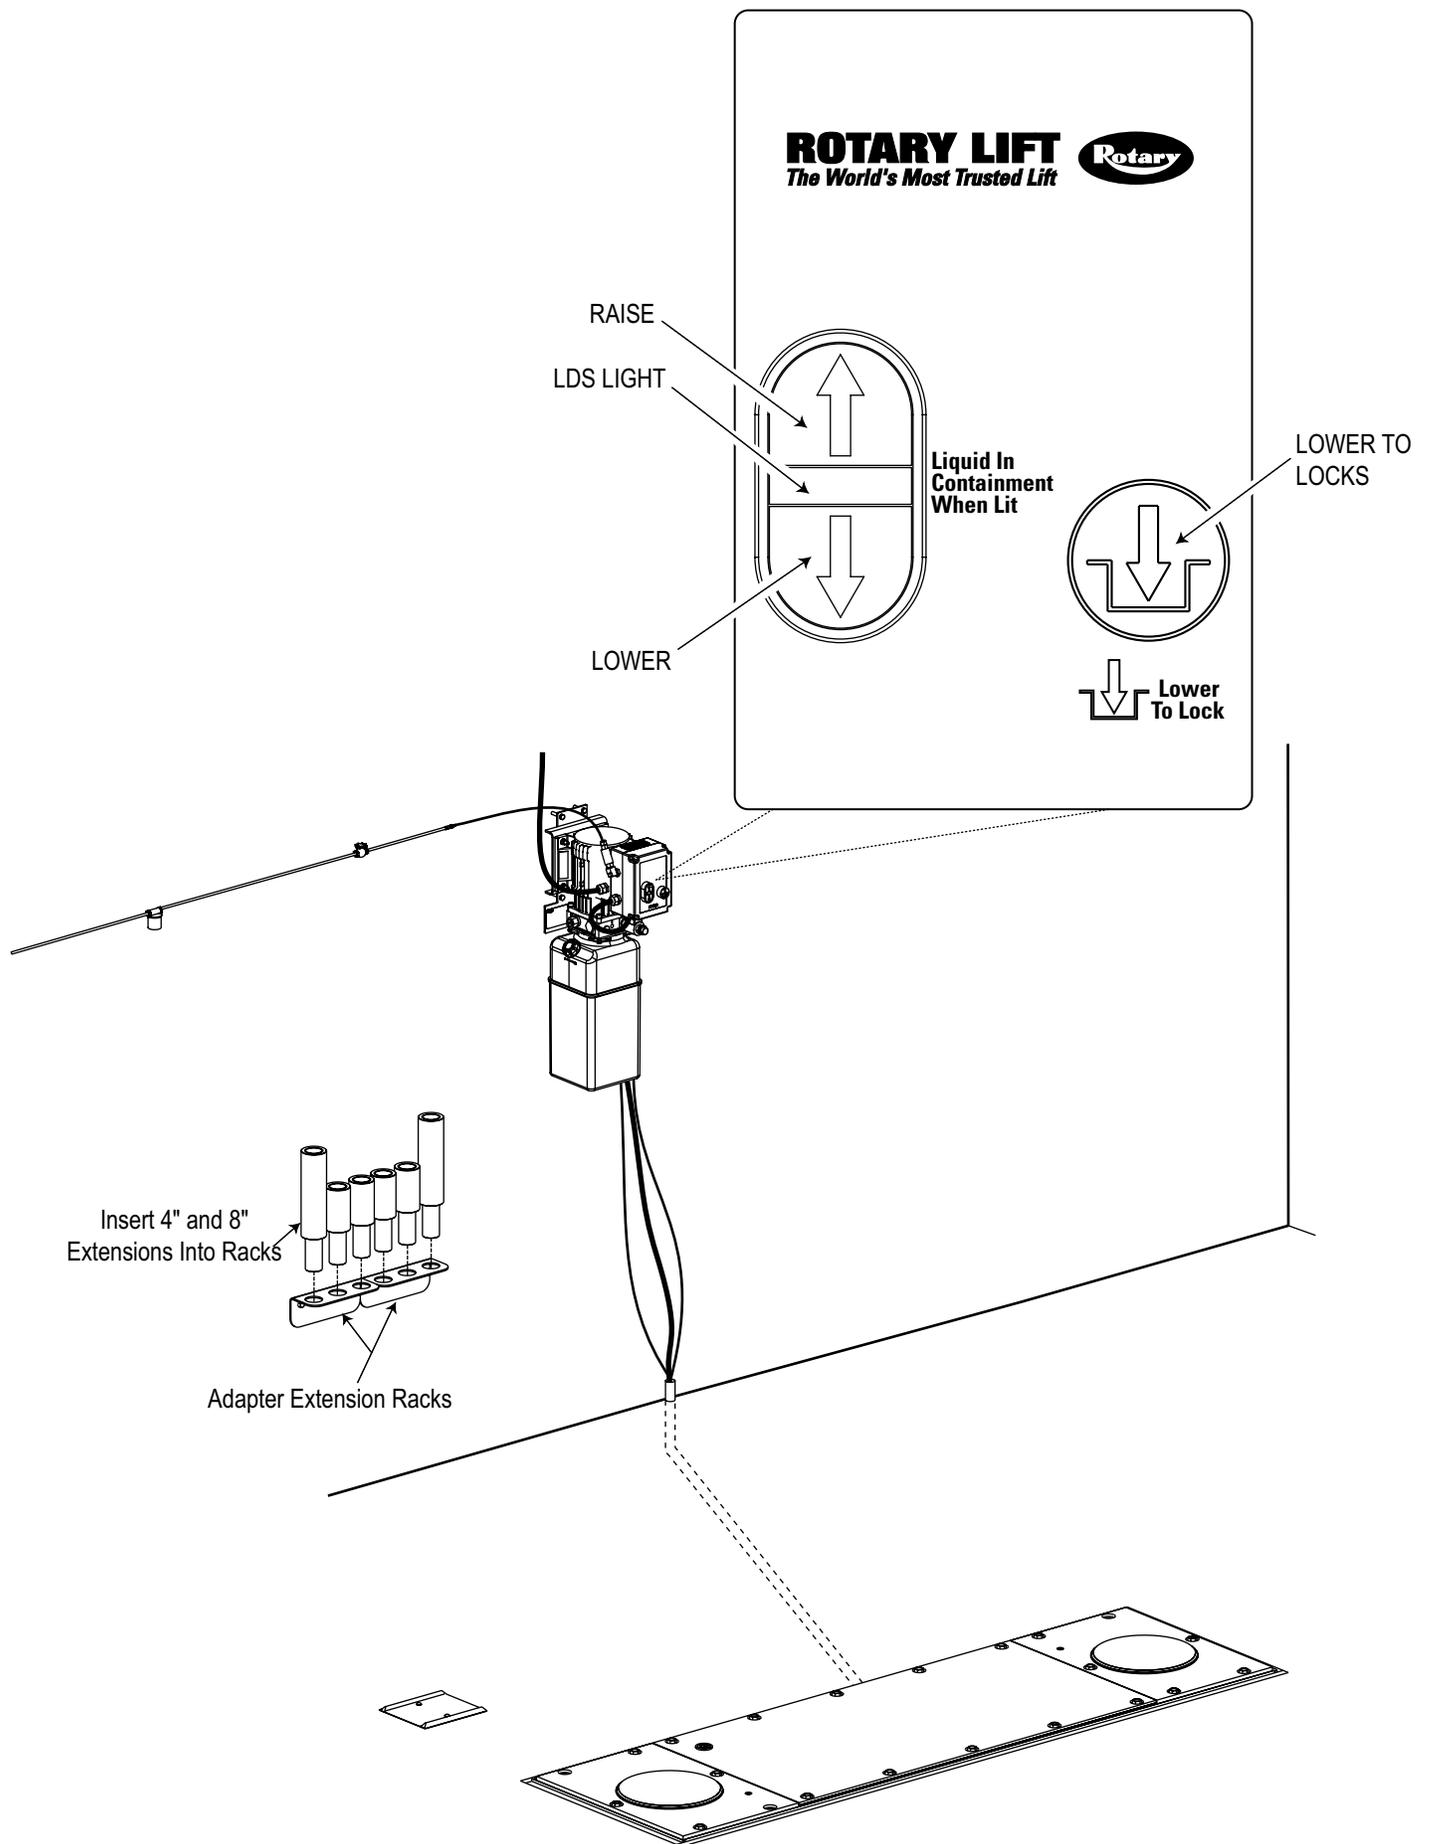

Fig. 15
12. Adapter Extension Racks (For SL212i only), Fig. 15:
- A. Locate and mount adapter extension racks on the wall convenient to the bay area using (4) 3/8" wall anchors. Anchors must be able to hold 20 lbs. of shear force.
- D. Press  RAISE button and raise lift to full rise, Fig. 15.
- E. Press  LOWER button to fully lower lift, Fig. 15.
14. Locking Latch Test; refer to Fig. 15:
15. Cylinder/Load Pad Test; refer to Fig. 15: